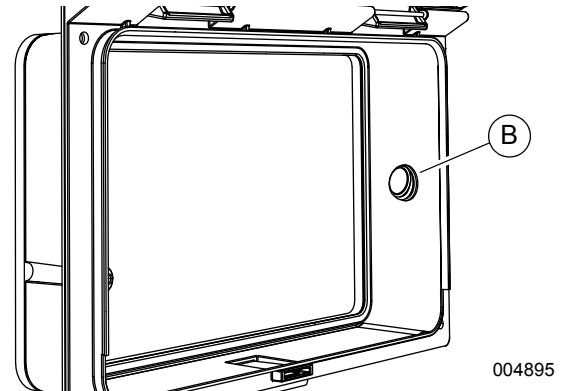

Figure 7 - Customer Access Cover Switch Installation
6. See **Figure 7**. Insert rocker switch (B) into hole from inboard side of controller access cover. Rocker switch terminals should be on the insulated side of the rear enclosure panel.